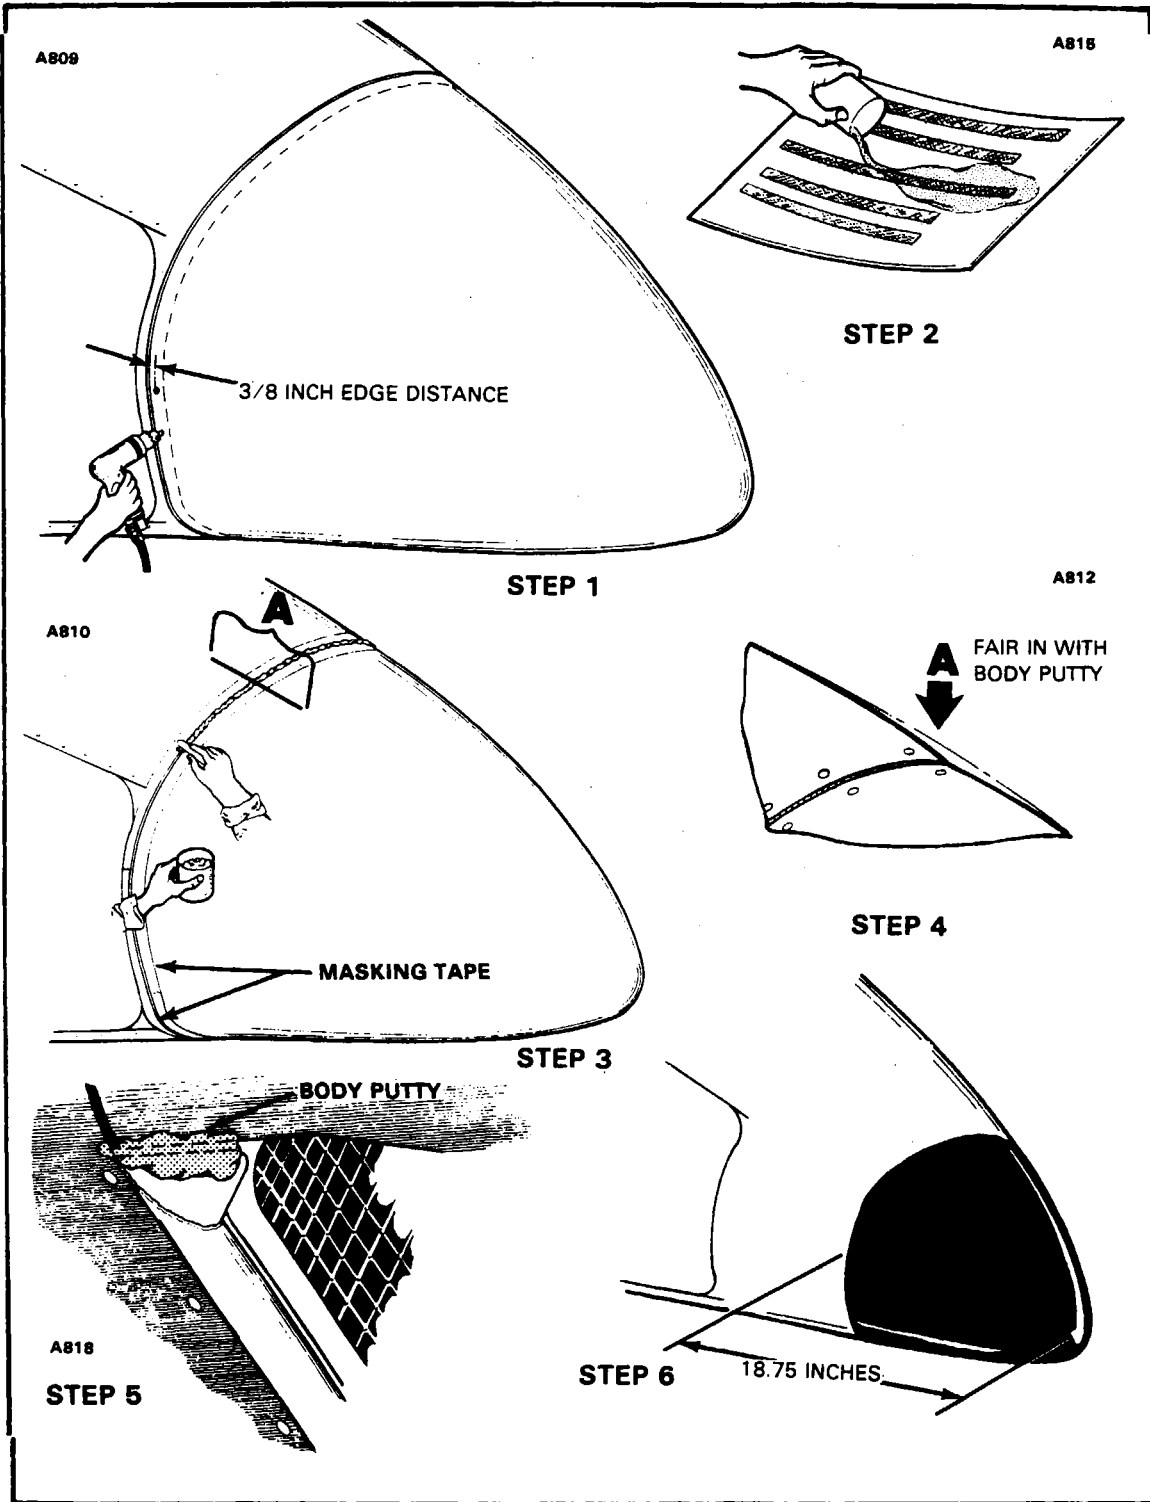

Figure 4-26. Installation of Nose Cone/Radome
DO NOT physically **FORCE** the nose cone/radome to fit flush with the aluminum nose section. Maintain at least a 3/8 inch gap and build up the cone with paste (Kit 763 904), and then body putty as shown in Figure 4-26 (of the proper mix) respectively.
g. Drill (as shown in Figure 4-26, Step 1) .098 inch holes in the nose cone to match those in the bulkhead mounting flange, twenty eight of the same for the radome (equally spaced to clear holes in flange), maintaining in the cone at least a 3/8 inch edge distance from the center of the rivet holes to the edge of the fiberglass.
i. With the nose cone/radome riveted in position, prepare four pieces of fiberglass matting (3/4 oz., .75 x 15 inch) by placing the pieces on a piece of cardboard, or other, and saturating them with prepared resin by pouring it over them as shown in Figure 4-26, Step 2. Lay and pack the matting around the mounting flange at bulkhead, station -12.62. **MAKE SURE** the matting is packed such that it contacts the fiberglass cone through the holes in the flange.
j. Prepare the other required matting (see Figure 4-26, Step 2) pieces and install them along their specific mating flanges.
If the nose cone/radome does not touch the air scoop on both sides fill in from inside with fiberglass matting and later, outside with body putty as shown in Figure 4-26, Step 5.
- l. Using the fiberglass paste kit (763 904) mix up the required amount (working time 15 to 30 min. depending on amount of hardener used) and lay masking tape (as shown in Figure 4-26, Steps 3 and 4) around the seam such that the paste does not spread onto the metal or fiberglass cone. Spread paste into seam with a wood (tongue depressor) or soft plastic spatula.
- n. Mix some body putty and hardener; then with a wooden or plastic spatula (to keep from scratching the cone or aluminum) apply putty to the seam area, also to the sides of the lower air vent (see Figure 4-26, Step 5) if the cone doesn't contact it, and go over the putty with a wide plastic spreader to even out the putty.
- p. Finish by priming, sanding, and color coating. **DO NOT** paint over honeycomb section. When finishing radome, tape around the nose cone 18.75 inches back from the tip of the cone and paint that area with a flat black polyurethane paint only. (Refer to Figure 4-26.)